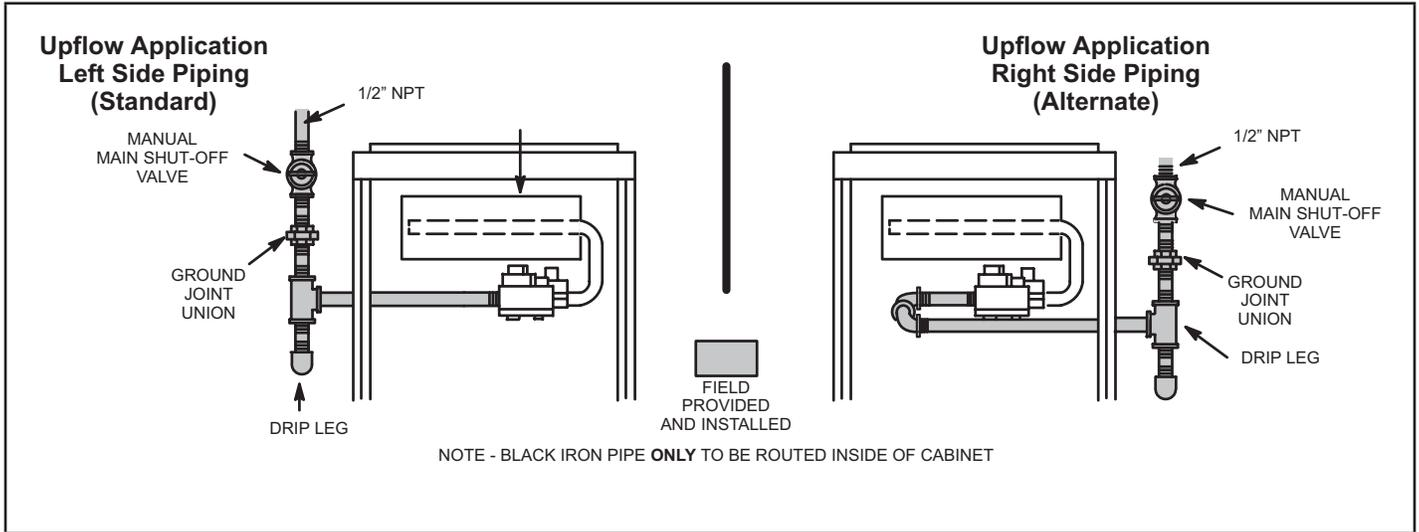
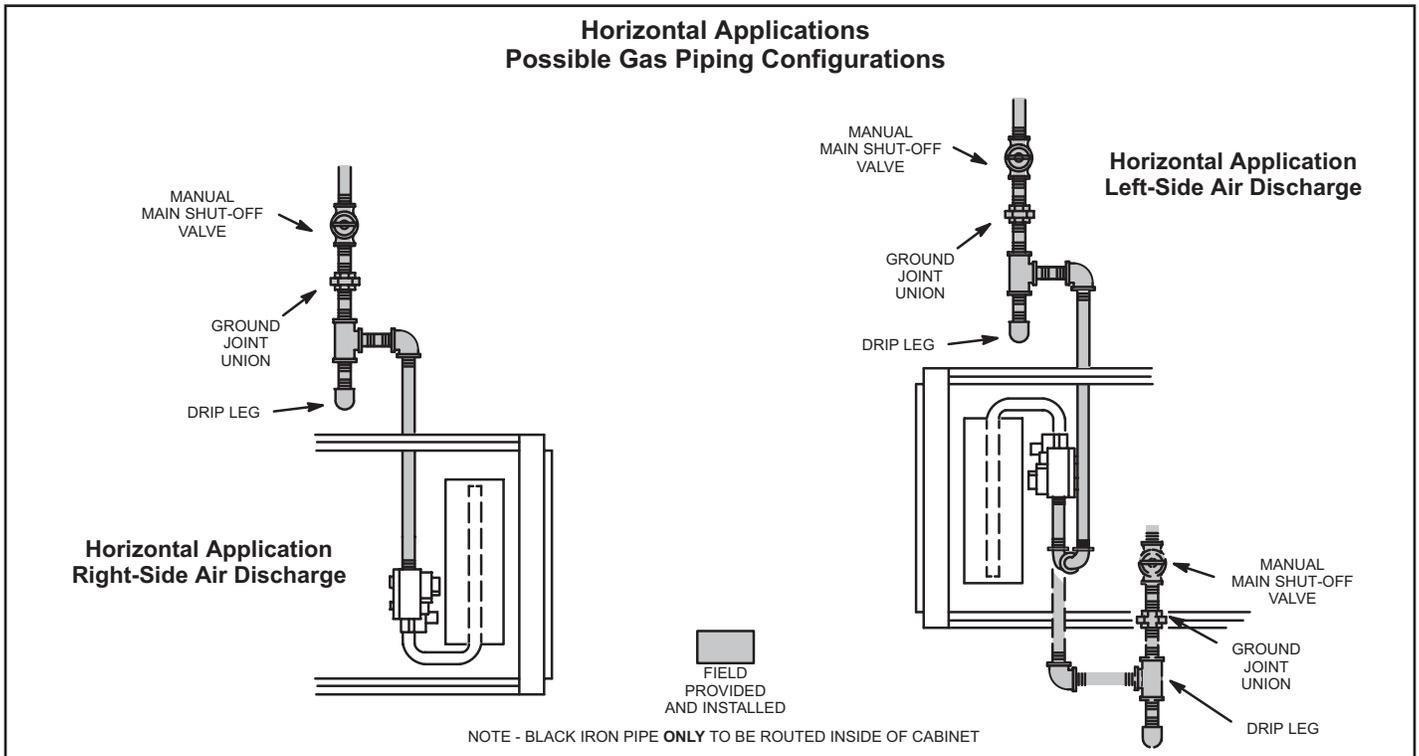

FIGURE 56
FIGURE 57
- 1 - Gas piping may be routed into the unit through either the left- or right- hand side. Supply piping enters into the gas valve from the side of the valve as shown in "FIGURE 56". Connect the gas supply piping into the gas valve. The maximum torque is 800 in lbs and minimum torque is 350 in lbs when attaching the gas piping to the gas valve.
- 3 - Gas piping must not run in or through air ducts, clothes chutes, chimneys or gas vents, dumb waiters or elevator shafts. Center gas line through piping hole. Gas line should not touch side of unit. See "FIGURE 56" and "FIGURE 57".